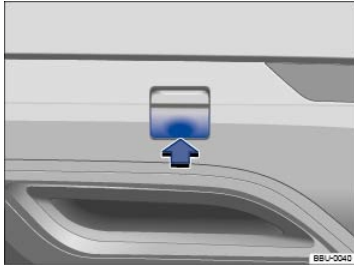

Fig. 155 In the right rear bumper: Removing the cover.
There is a threaded hole for the towing eye in the right rear bumper behind a cover ⇒ Fig. 155.
- Push on the cover at the bottom marking ⇒ Fig. 155 (arrow) so that it pops out.